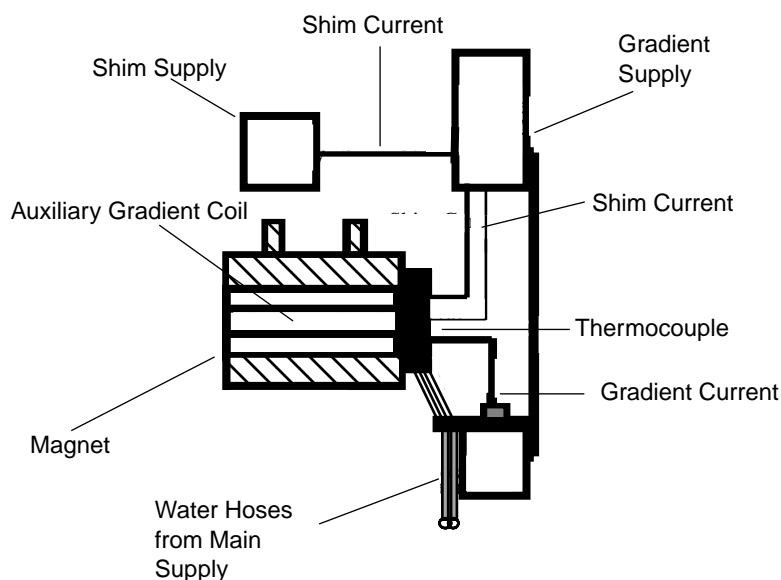

Figure 89. Connections for Auxiliary Configuration
14. Verify that system connections are in the (auxiliary) configuration shown in **Figure 89**, before powering on the system shim and gradient power supplies.
1. The system configuration is assumed to be as shown in **Figure 89**. This is the auxiliary configuration. Verify that the system is functional in the auxiliary configuration, before proceeding to remove the HPAG auxiliary gradient coil.
If the connections are not made as shown in **Figure 89**, then the system has been left in an incorrect configuration and might possibly be damaged by the procedure. In this situation, perform the following three SAFETY steps and correct the cabling error so that the connections correspond to those shown in **Figure 89**. The system can then be powered up.